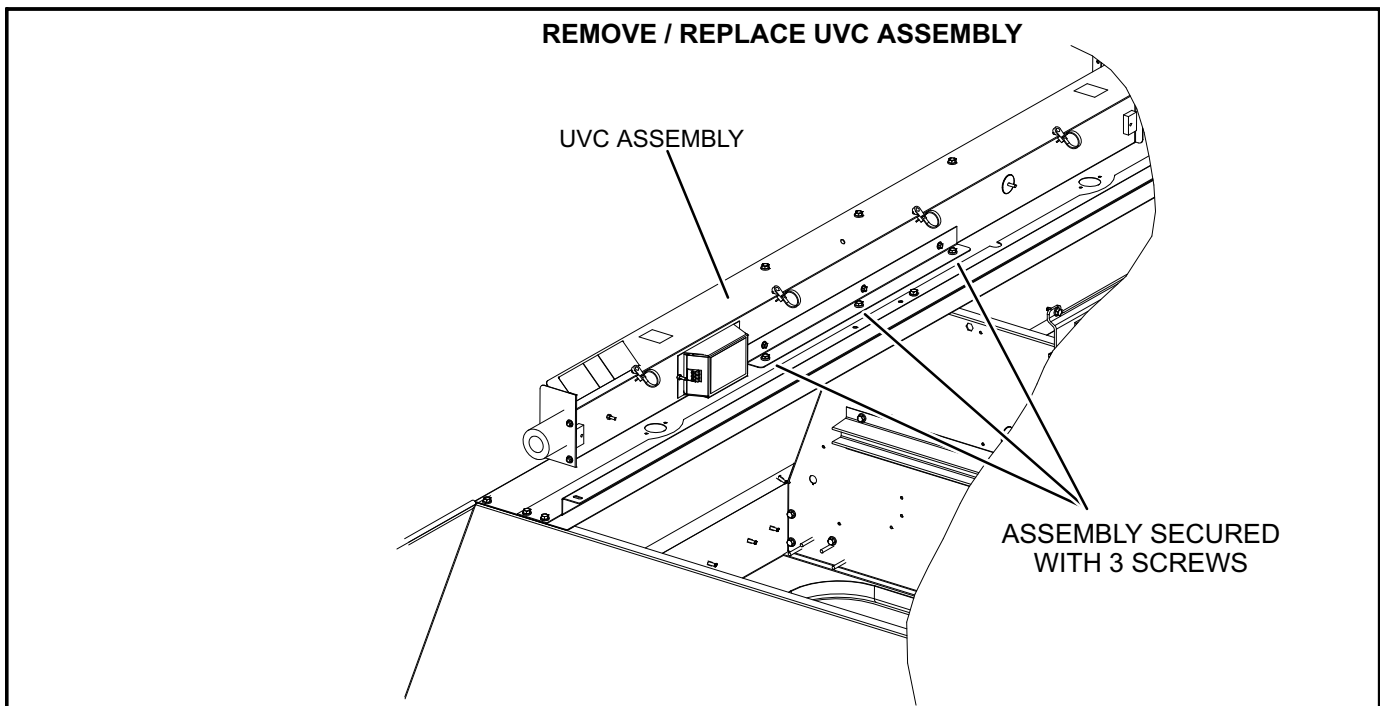

FIGURE 29
- 5- Remove and retain the (3) mounting screws securing the UVC assembly. Carefully remove the complete UVC assembly out through the blower access door. See figure 29.